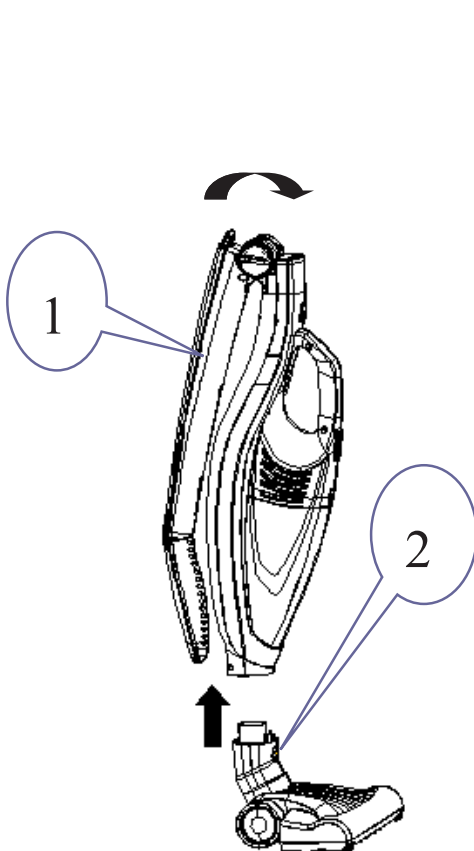
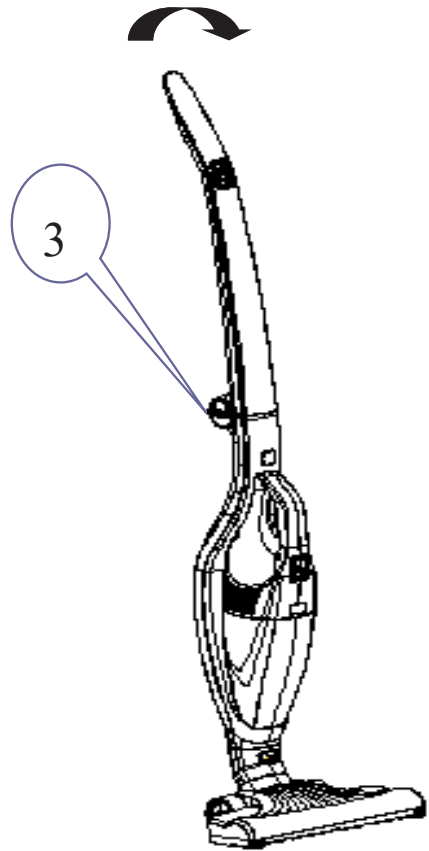

Fig. 2
Fig. 3
Insert the floor brush into the body by following the arrow shown in Fig. 2, when the release button (2) locks the body, rotate the handle (1) and make it be inserted into the body. If need to fold the handle, rotate the handle release button (3) .(See Fig. 3)